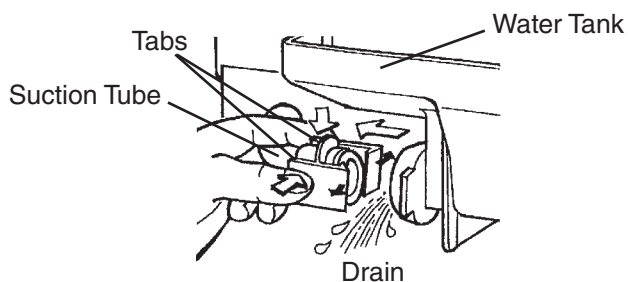

Fig. 31
6. Inside the storage bin, disconnect the suction tube by squeezing the tabs and pulling the tube clear. See Fig. 31. Allow the water tank to drain.